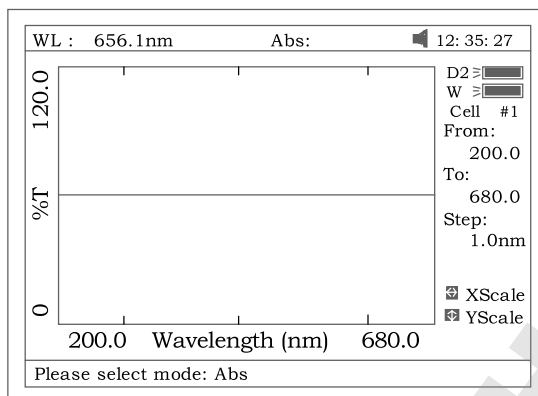

Fig 42
2. Press **【F2】** to select the test mode, "Abs", "%T" or "E" (Fig 42).